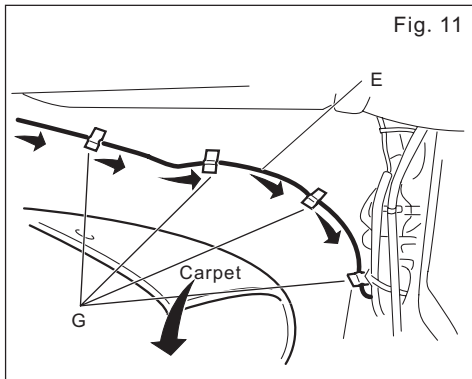

Fig. 11
- k) Attach the long Harness E to floor using the Flat Wire Protector G . (4 pieces) . See in Fig. 11.